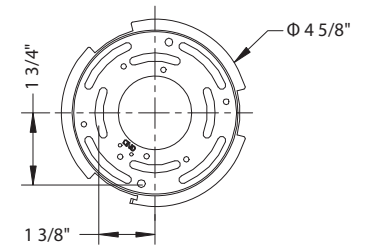
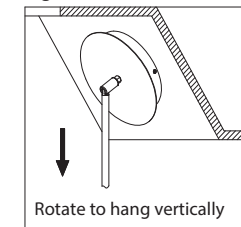

Fig. 2 Wiring
Fig. 3 Switch
3. Remove the canopy screw (C) from the fixture, and remove the ceiling plate.
4. Set color temperature at this stage. The fixture can switch between three color temperatures (3000k, 3500k, 4000k), which can be adjusted to your preference using the 3CCT switches (Fig. 3) mounted on the canopy. Make sure both switches are set to the same color temperature setting.
5. Drill holes in the ceiling aligned with the outer keyholes in the ceiling plate. Install the plastic anchors (E) into the ceiling.
6. Secure the ceiling plate to the junction box using the original junction box screws. Fasten the ceiling plate to the ceiling using anchor screws (D).
#### WIRING FIXTURE (Fig. 1, Fig. 2, Fig. 3)
Note: Due to limited space within the canopy, shorten the wires as necessary to make the installation easier. Make sure to identify and label all the wiring properly (Fig. 3) before any trimming/shortening.
9. Connect the driver's output wires, fixture wire and 3CCT wire as shown in Fig. 3. Connect the driver's input wires to junction box wires as shown in Fig. 2. Ensure wire connectors are secure. Connect the fixture's ground wire to the ground in the junction box; this will be either a green wire or a bare copper wire. After driver is wired to house wires, tuck wires carefully inside the junction box.
#### (OPTIONAL) DIMMER WIRING (Fig. 3)